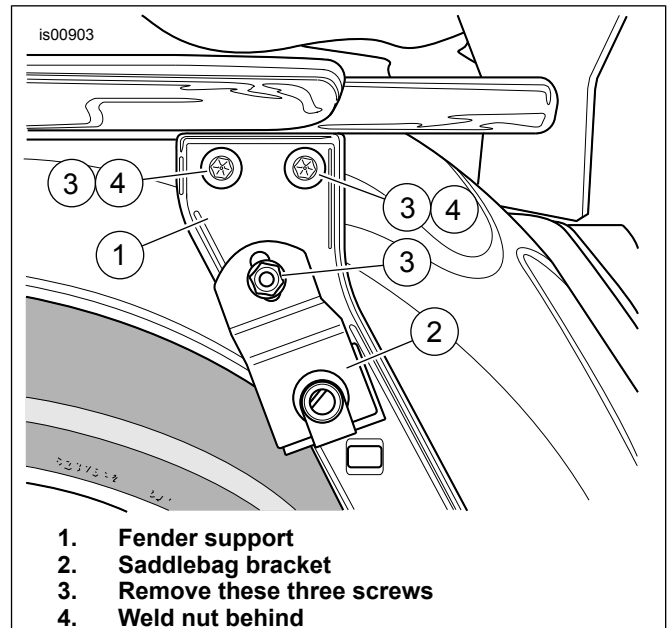

Figure 2. Removal of Original Equipment Screws (Left Side Shown)
3. See Figure 2. Remove and discard the three screws shown, from each side of the motorcycle. Keep the washer from the bottom screw for saddlebag and bracket installation.